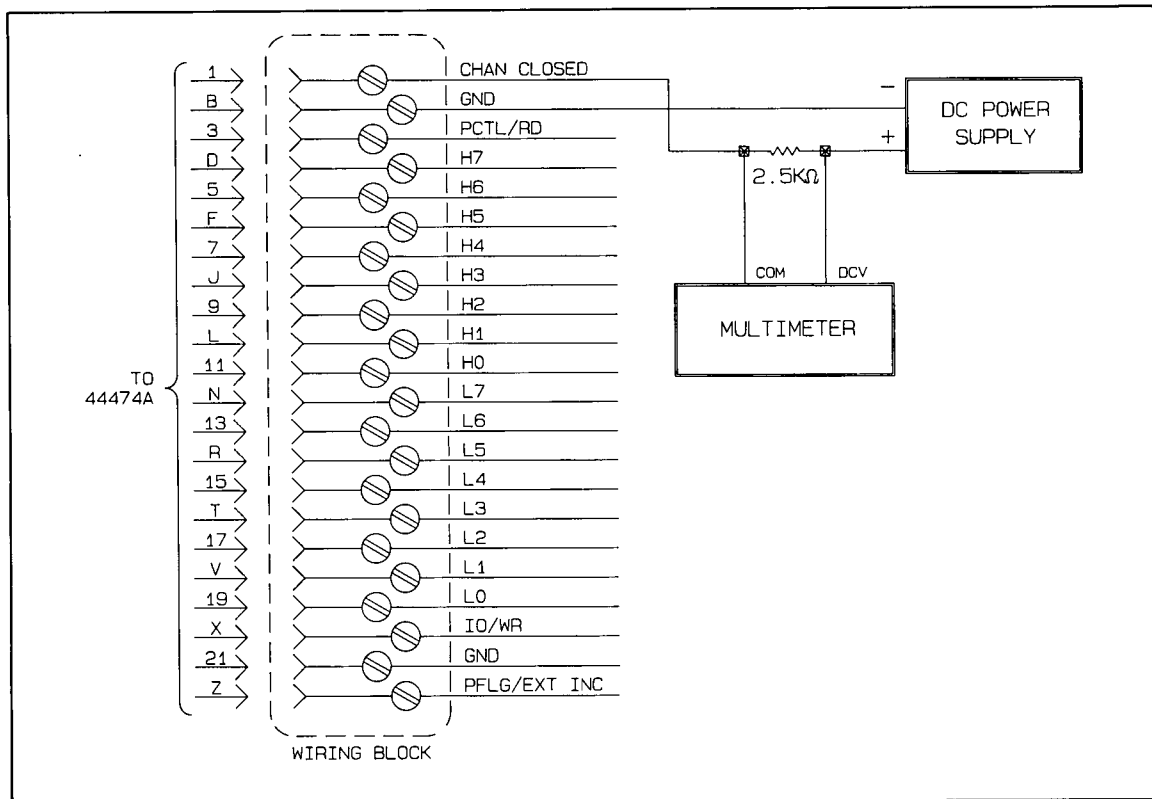

Figure 12-8 CHAN CLOSED Line Test
22. Set the dc power supply to deliver 0Vdc. Connect the dc power supply, the multimeter and the 2.5k ohm resistor to the CHAN CLOSED line as shown in Figure 12-8.